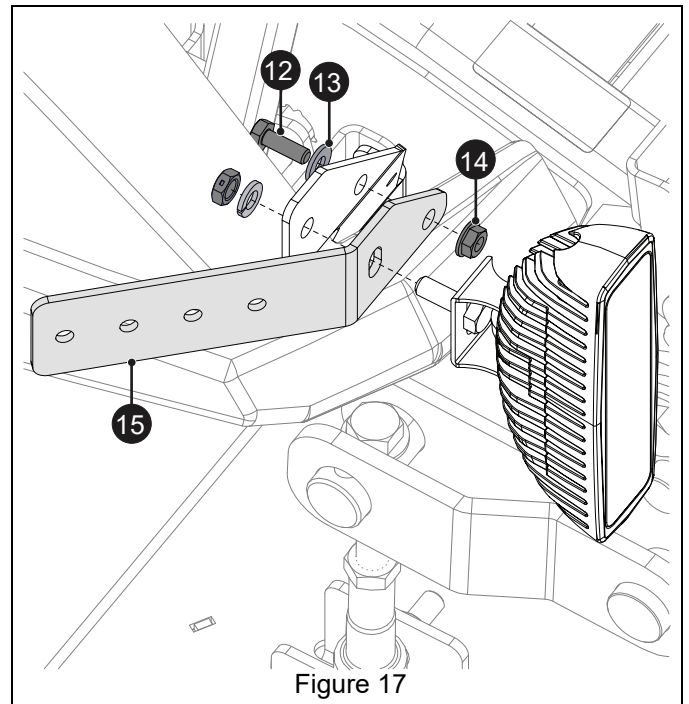

Figure 17
2. Attach rod bracket plate (Item 15) to headlight bracket with one 1/4" x 3/4" hex bolt (Item 12), one flat washer (Item 13) and one 1/4" locking center flange nut (Item 14). Reinstall headlight in upper hole. See Figure 17.